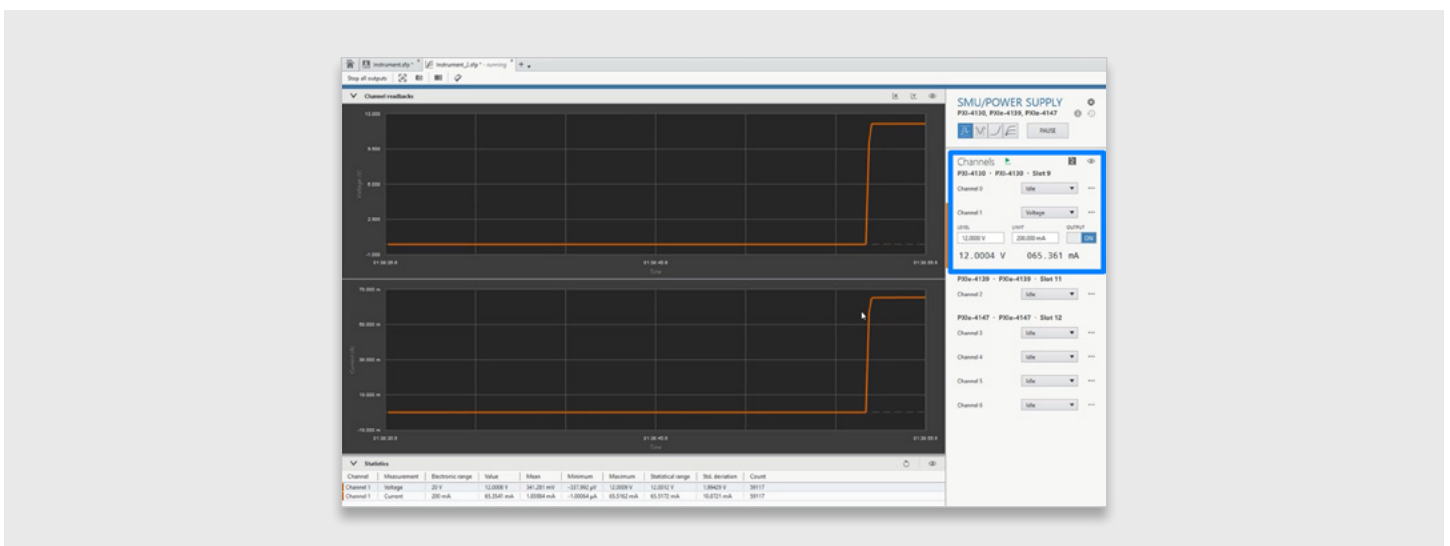

FIGURE 16
2. The DC Power panel in InstrumentStudio can then be used to power VCC using the NI PXIe-4130 (SMU), as seen in Figure 16: